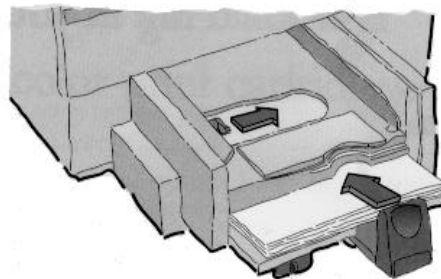

Figure 2, Printer Paper Installation
24. Referring to Figure 2, Load the printer paper into the Printer.